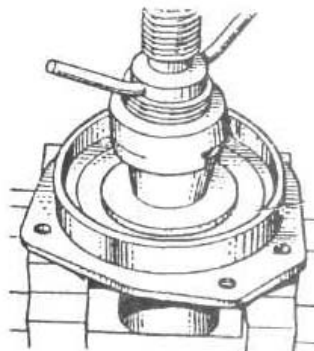

Figure 4.47
e) press sealing ring off tap arm (Figure 4.47);